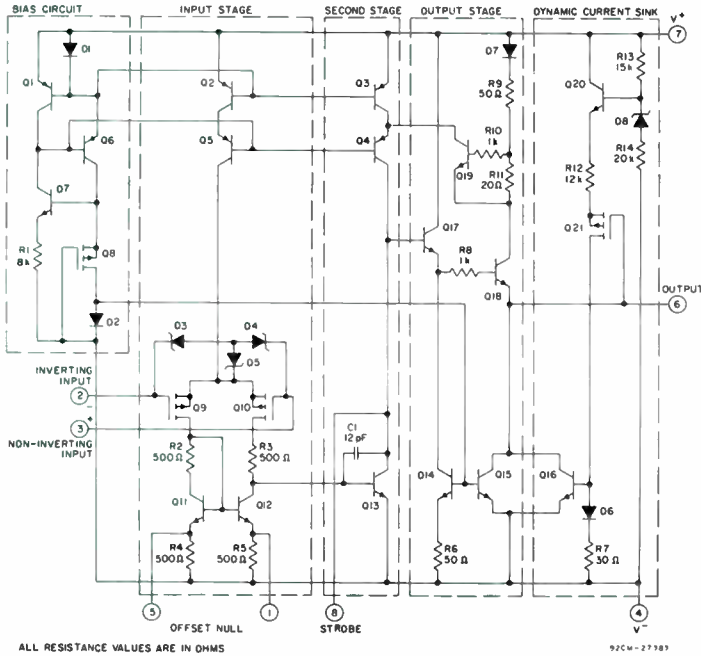

Fig.3 – Schematic diagram of CA3140 series.
**Input Stages** — The schematic circuit diagram of the CA3140 is shown in Fig. 3. It consists of a differential-input stage using PMOS field-effect transistors (Q9, Q10) working into a mirror pair of bipolar transistors (Q11, Q12) functioning as load resistors together with resistors R2 through R5. The mirror-pair transistors also function as a differential-to-single-ended converter to provide base-current drive to the second-stage bipolar transistor (Q13). Offset nulling, when desired, can be effected with a 10-k $\Omega$  potentiometer connected across terminals 1 and 5 and with its slider arm connected to terminal 4. Cascode-connected bipolar transistors Q2, Q5 are the constant-current source for the input stage. The base-biasing circuit for the constant-current source is described subsequently. The small diodes D3, D4, D5 provide gate-oxide protection against high-voltage transients, e.g., static electricity.